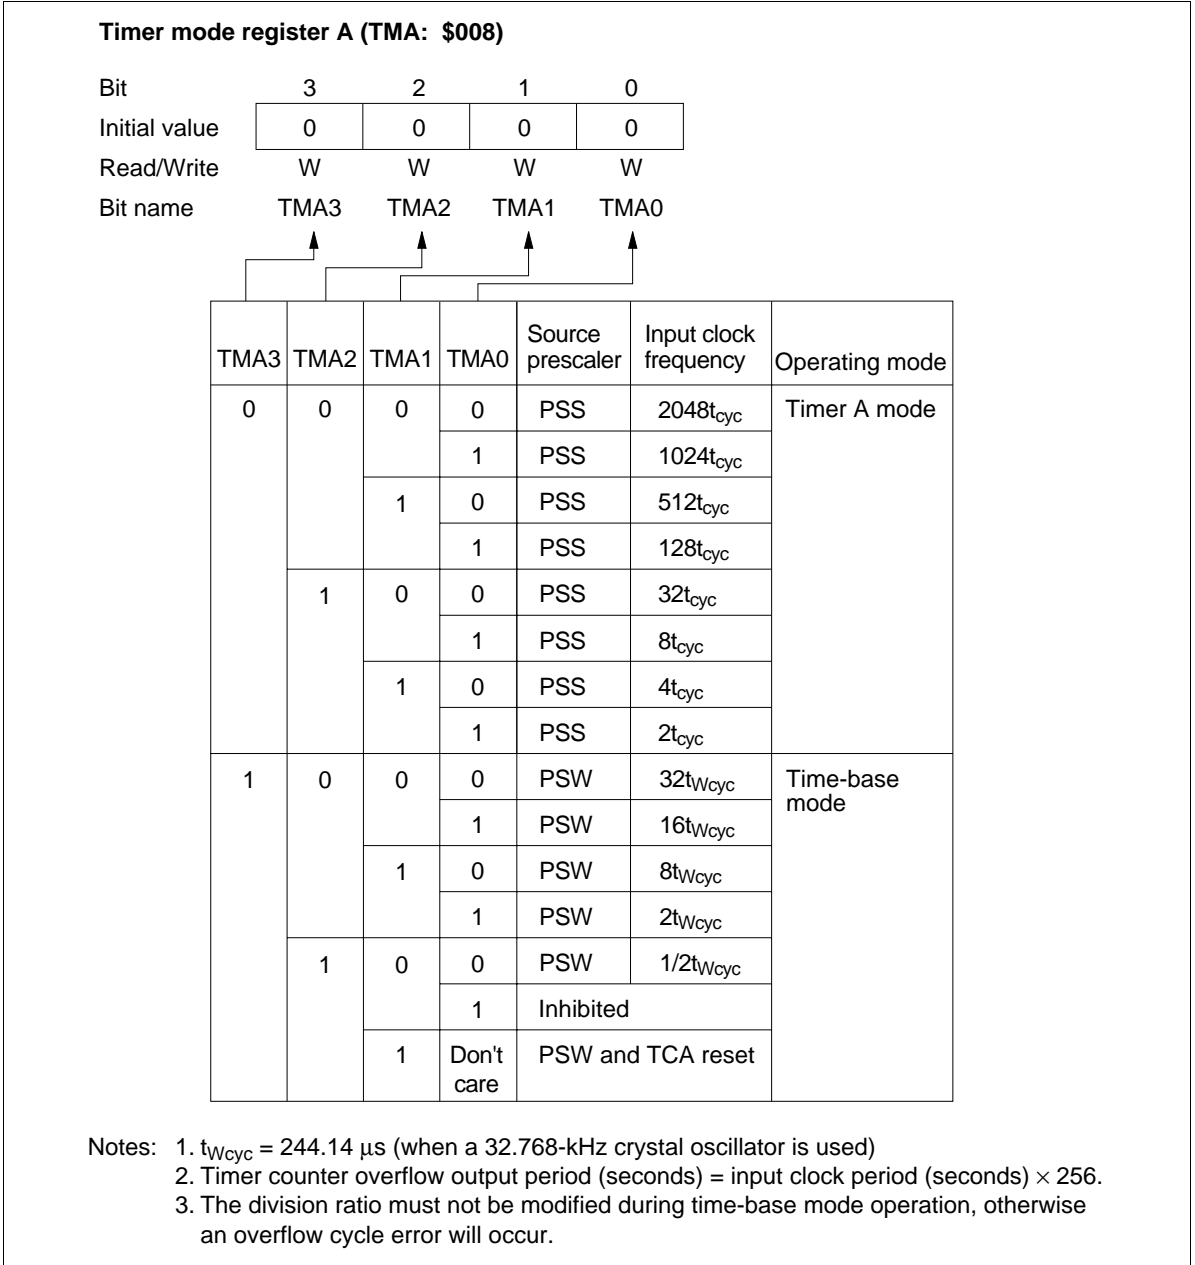

Figure 41 Timer Mode Register A (TMA)
- Timer mode register A (TMA: \$008): Four-bit write-only register that selects timer A’s operating mode and input clock source as shown in figure 41.